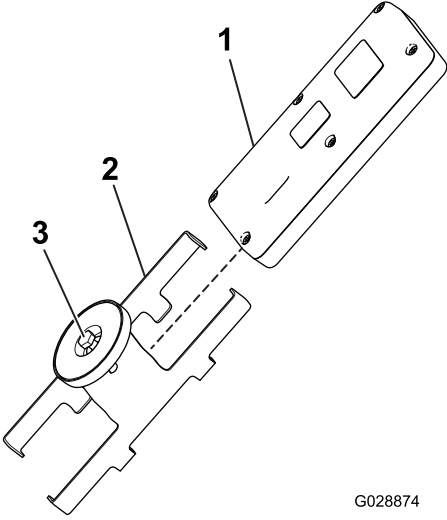

Figure 21
5. Assemble the handheld remote into the magnetic remote bracket, slide the bracket halves together, and tighten the bolt in the magnet (Figure 21).